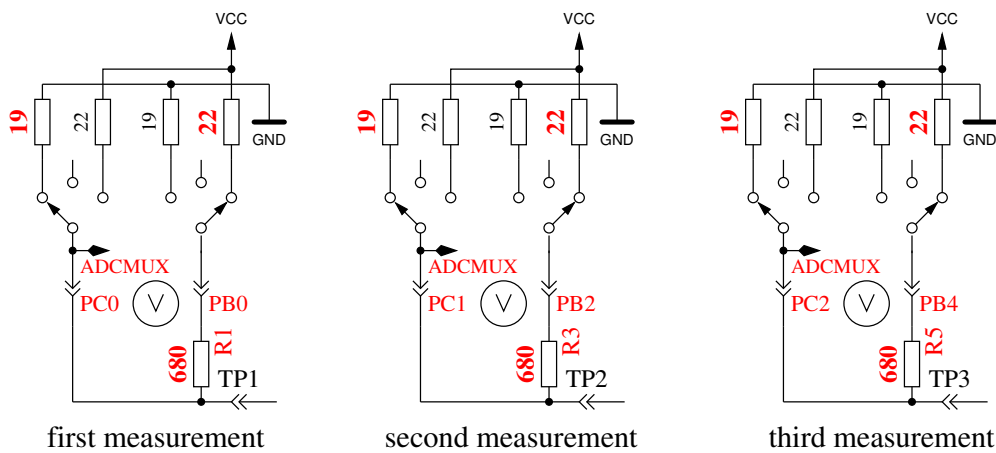

Figure 5.28: Measurement of internal resistance of Port C switched to GND
5. **This step tests the capability of GND (-) connected 470kΩ resistors (H) to pull the test pins to GND.** Row 1 shows the text “RH-”. Row 2 should display zero for all three pins.
6. **This step tests the capability of VCC (+) connected 470kΩ resistors (H) to pull the test pins to VCC (+).** Row 1 shows the text “RH+”. The best value for this three measurements is 5001. Great differences from the best value for test 5 and 6 are errors such as isolation problem, flux material or damaged port.
7. **Measuring of internal resistance of pin output switched to the GND signal.** The text in the 1st LCD row is “Ri.Lo = (mV)”. In the second row of the LCD three voltages were displayed. The internal resistance of the port C outputs switched to GND (-) are measured with the current of to VCC (+) switched 680Ω resistors, see Figure 5.28. Only the three pins of the ADC port are measured, the resistor port B (PB0, PB2 and PB4) can not be measured without hardware modification. It is assumed that the port resistance of the different ports are nearly identical. To get the resistor values, you must divide the displayed mV values by about 7 (see test 8).